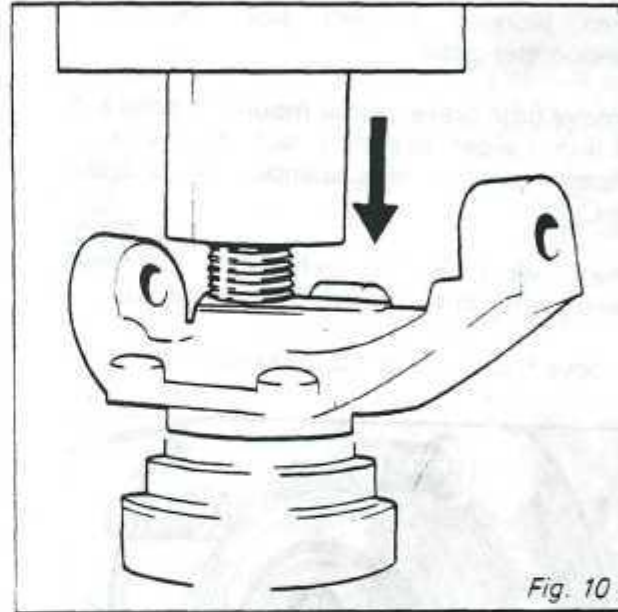

Fig. 10
13. Press spindle from steering knuckle as shown in Fig. 10